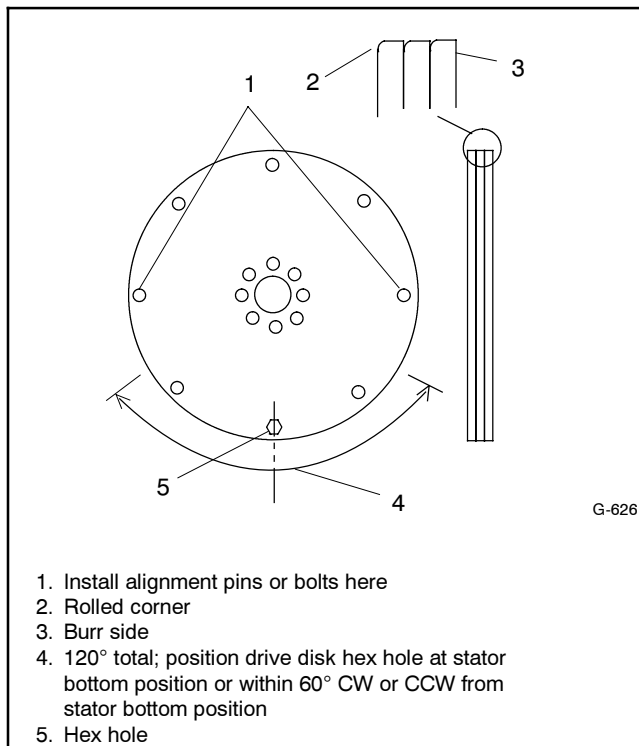

Figure 4-19 Aligning and Mounting Drive Disks
16. Align the individual drive disks with the hex holes together and with the hole burr sides facing the same direction. Temporarily place two alignment pins (not supplied) or bolts in the outer holes at opposite ends and 90° from the hex hole before installing the drive disk to the rotor shaft. The pins help maintain concentric alignment of the individual drive disks during installation. See Figure 4-19.